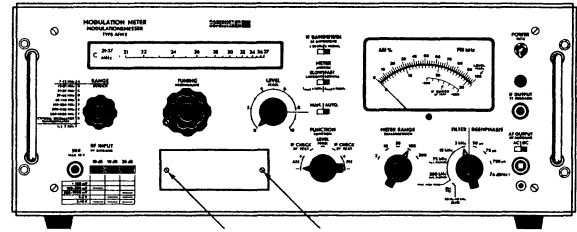

Fig.E5. The arrows show screws and plate to be removed when a plug-in unit is to be used.
Crystal Oscillator Unit is to be placed (see Fig. E5).
1) Remove the two screws and the plate covering the receptacle in which the External-Oscillator Amplifier is to be placed (see Fig.E5).